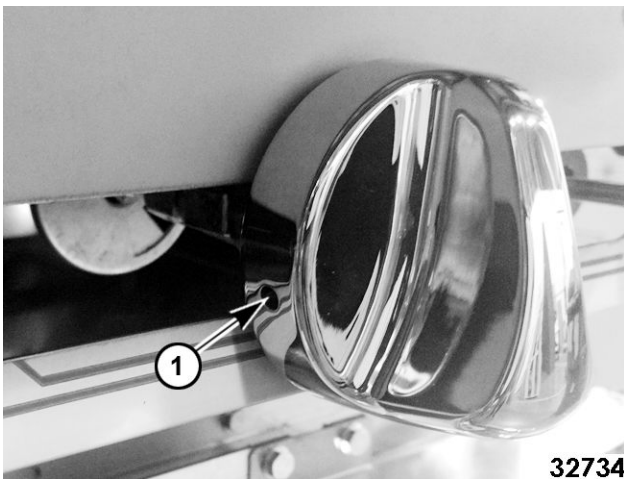

Fig. 1
2. Loosen setscrews (1, Fig. 1) in burner control knobs and remove knobs.